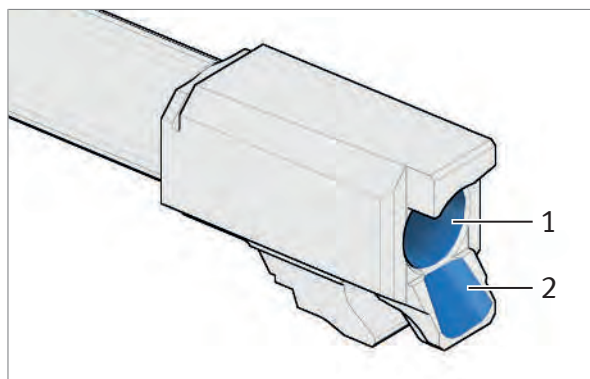

Fig. 49: Clean and oil barrel, chamber and cartridge guide
4. Pull clean cleaning pull-throughs through the barrel several times until the barrel, chamber and cartridge guide are free of oil and foreign bodies (Fig. 49).